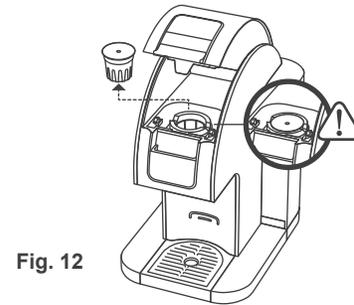

Fig. 12
8. Pull the Latch and dispose of the used Pod. (Fig. 12)
**CAUTION:** Pod will be HOT! (Fig. 12)